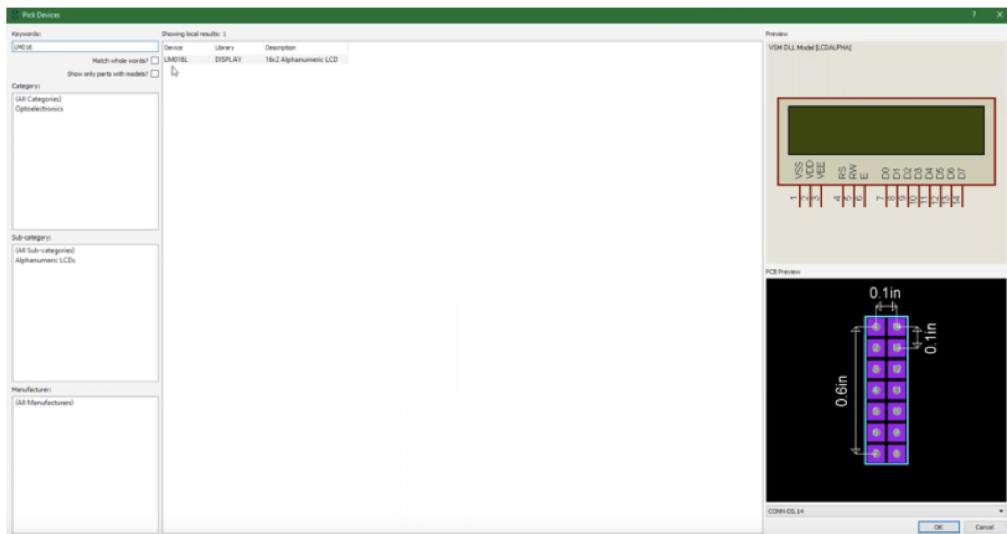
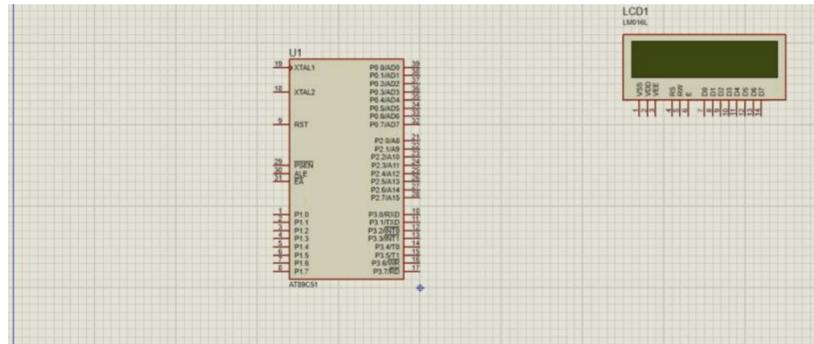

Figure 9: Select the LCD by typing 'LM016L'
Figure 10: Click the ‘OK’ button to drag it and you can see that LCD display screen is added to your project.
4. Again, click on the "P" button with a blue background (as done in step 3). Select the LCD by typing 'LM016L'(Figure 9). Then, click the 'OK' button to drag it (Figure 10).